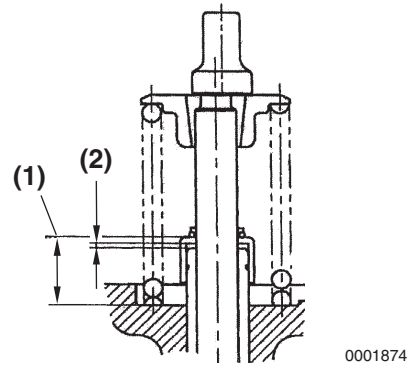

Figure 6-29
2. Measure the distance (Figure 6-29, (1)) from the cylinder head to valve stem seal to ensure proper clearance (Figure 6-29, (2)) between the guide and the seal. See Intake / Exhaust Valve and Guide on page 6-7.